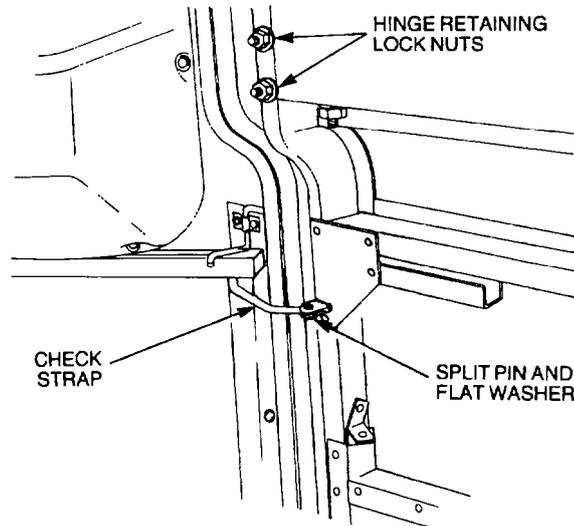

Figure 100 Door Removal
- a. Remove the split pin securing the door check strap clevis pin and remove the clevis pin and flat washer (Figure 100).